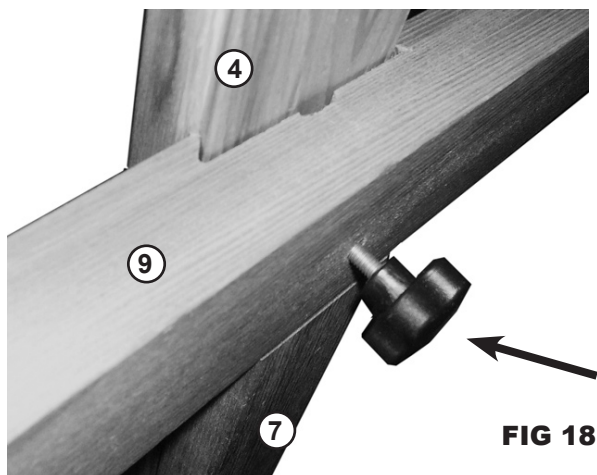

FIG 18
STEP 18. Once Channelled Center Column is in its proper location in the upper Cross Support, secure with the longest of the three remaining knobs by threading the threads of the knob in the hole in the rear of the cross support. Tighten to secure. See FIG 18.